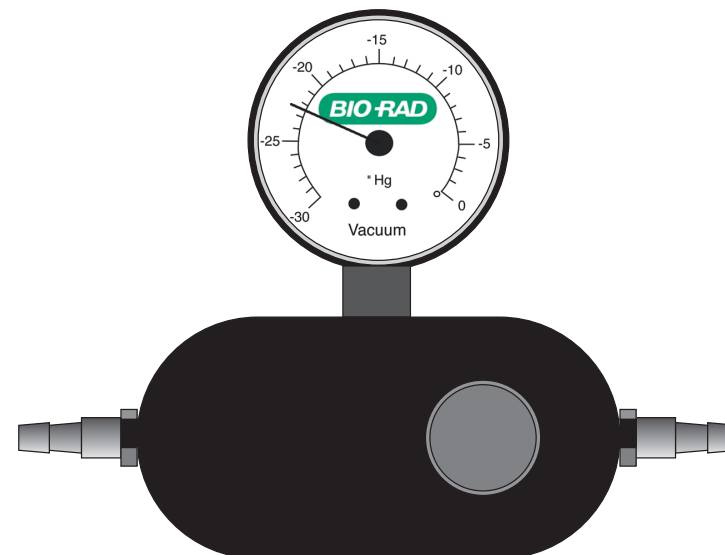

Fig. 2. Vacuum regulator with clear representation of the gauge
- The recommended operating range is –20–23 inches of mercury (\" Hg). Do not exceed –25\" Hg when performing this protocol. A vacuum regulator is **required** to establish the appropriate negative pressure (Figure 2).